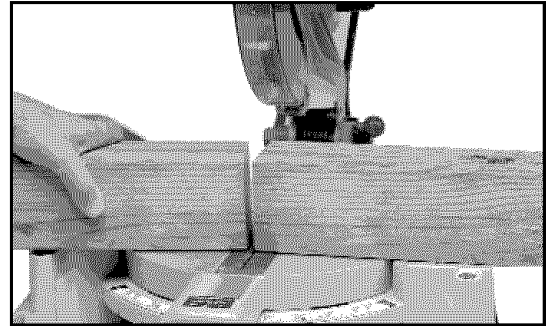

Fig. 30D
3. A standard 4 x 4 can be cut with one pass (Fig. 30D).